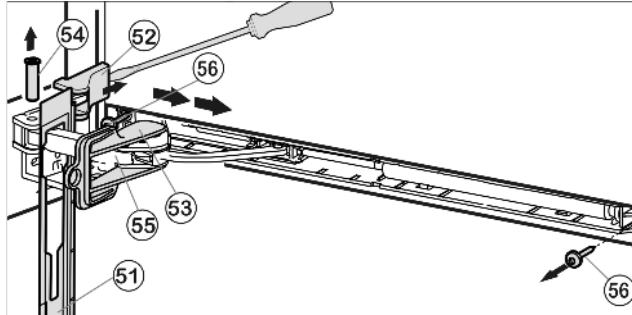

Fig. 19
▶ Push panel forward over the damper bracket *Fig. 19 (55)* in the direction of the appliance.
▶ Engage locking device *Fig. 19 (53)* into place inside oblong hole.
▶ Lift off cover *Fig. 19 (52)* from the outside using a screwdriver and remove by pulling outwards.
▶ Push bolt *Fig. 19 (54)* out from below.
▶ Press damper bracket *Fig. 19 (55)* in the direction of the door.
▶ Remove panel *Fig. 19 (51)*.
▶ Unscrew entire soft stop unit (2 x Torx 15) *Fig. 19 (56)*.